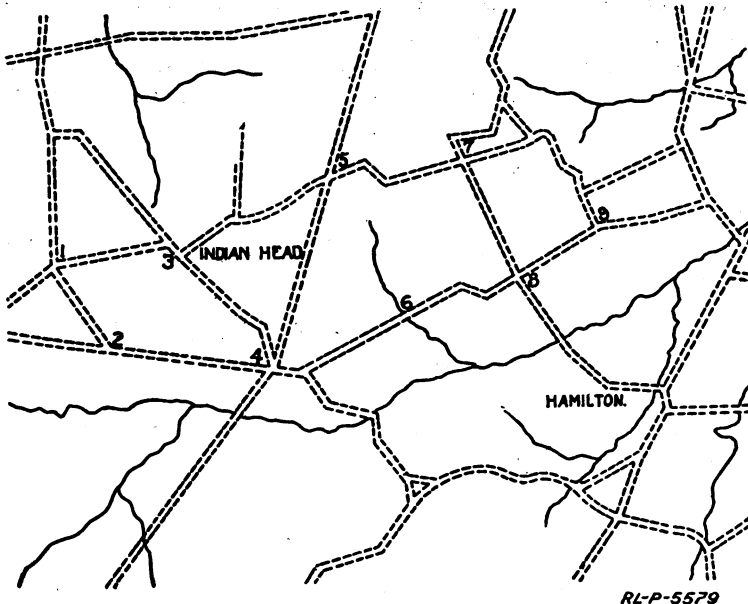

Fig. 39.—Sample map
1. *a.* The command post of the 1st Infantry regiment is located at the road junction 2. (See map in Fig. 39.) The axis of signal communication of this regiment has been designated as "road junction 2, crossroad 4; stream crossing 6, crossroad 8." The command post of the 1st Battalion is at road junction 3, and the 2d